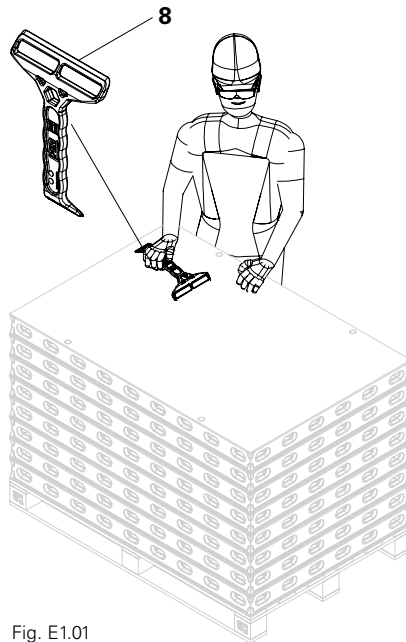
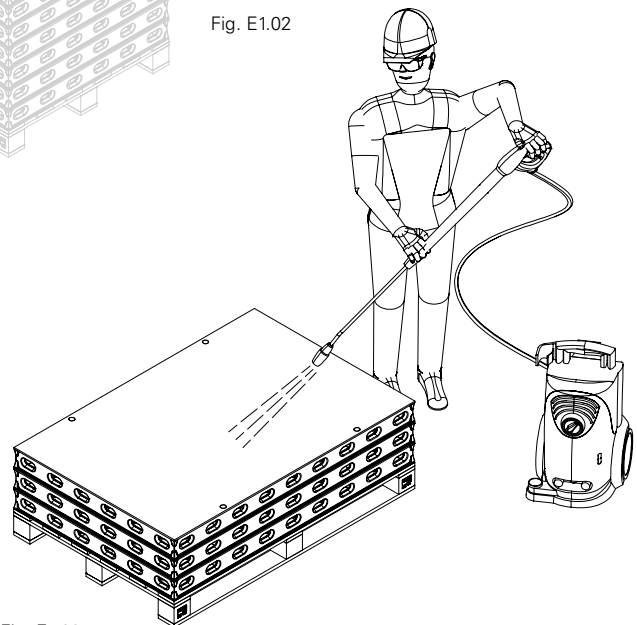

Fig. E1.01
Fig. E1.03
- Directly after striking, clean the panels only with the DUO cleaning device (8) (Fig. E1.01 + E1.02), a cloth or high pressure cleaner (Fig. E1.03) with water pressure between 100 and 200 bar.